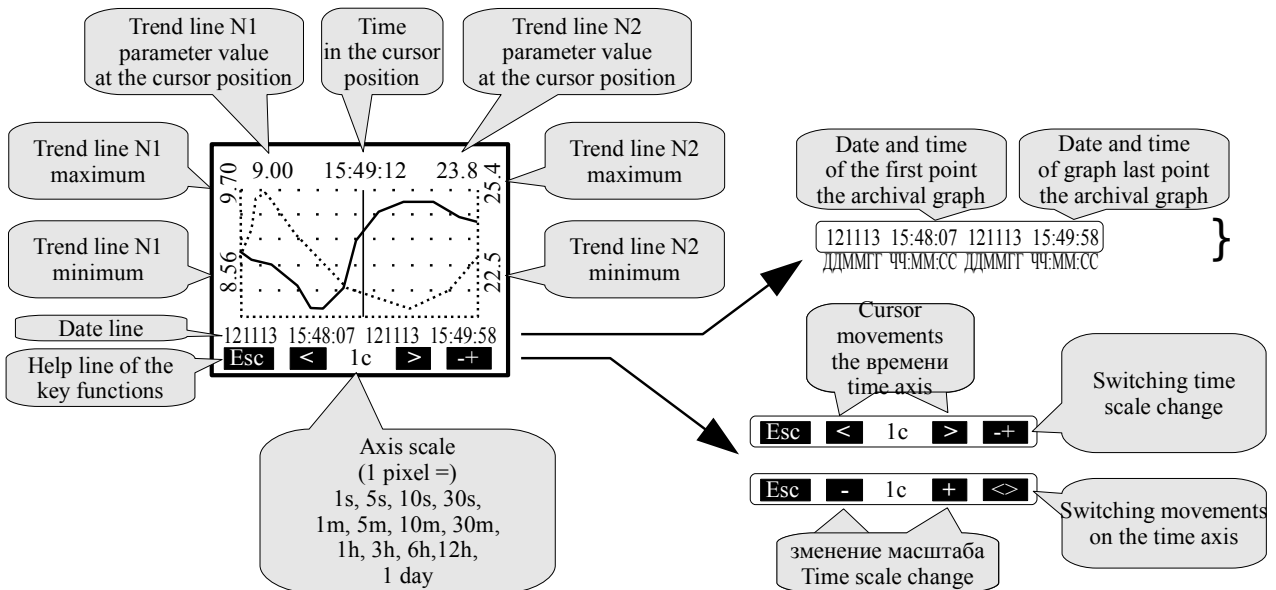

Figure 2 - Description of the control elements and data display in the "View Archive" sub-menu
- **View Archive** - in this mode the archive is viewed. Right button **}** allows to switch the control cursor mode: **Я** and **Ч**; or the time discrete interval changes, or cursor indicating the time of viewing and the values of the measured parameters at this time moves (See Figure 2).